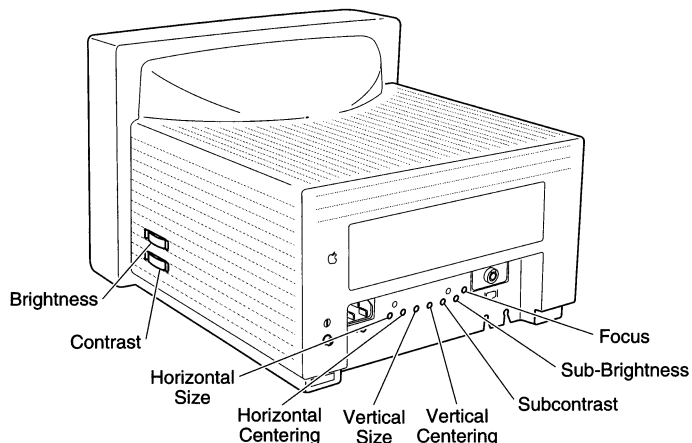

Figure 3 Adjustment Control Locations
2. FIGURE 3. Using the insulated screwdriver, turn the Horizontal Size control until the raster is 213.5 mm \pm 2.5 mm wide.
3. FIGURE 3. Using the insulated screwdriver, turn the Horizontal Centering control until the raster is centered (left to right) in the bezel.
2. FIGURE 3. Using the insulated screwdriver, turn the Vertical Size control until the raster is 159.5 mm \pm 2.5 mm high.
3. FIGURE 3. Using the insulated screwdriver, turn the Vertical Centering control until the raster is centered (top to bottom) in the bezel.
1. FIGURE 3. Turn the brightness control to the detent position (midrange) and turn the contrast control to maximum (full clockwise).
3. FIGURE 3. Adjust the Focus control for the best focus at the center of the screen.
1. FIGURE 3. Turn the brightness control to the detent position (midrange) and the contrast control to maximum (full clockwise).
3. FIGURE 3. Using the insulated screwdriver, adjust the Sub-Brightness control until the first bar of the test pattern is completely black and the second bar is just visible.
4. FIGURE 3. Using the insulated screwdriver, adjust the Subcontrast control until the luminance at the center of the screen reads in the middle of the "10" scale on the light meter.